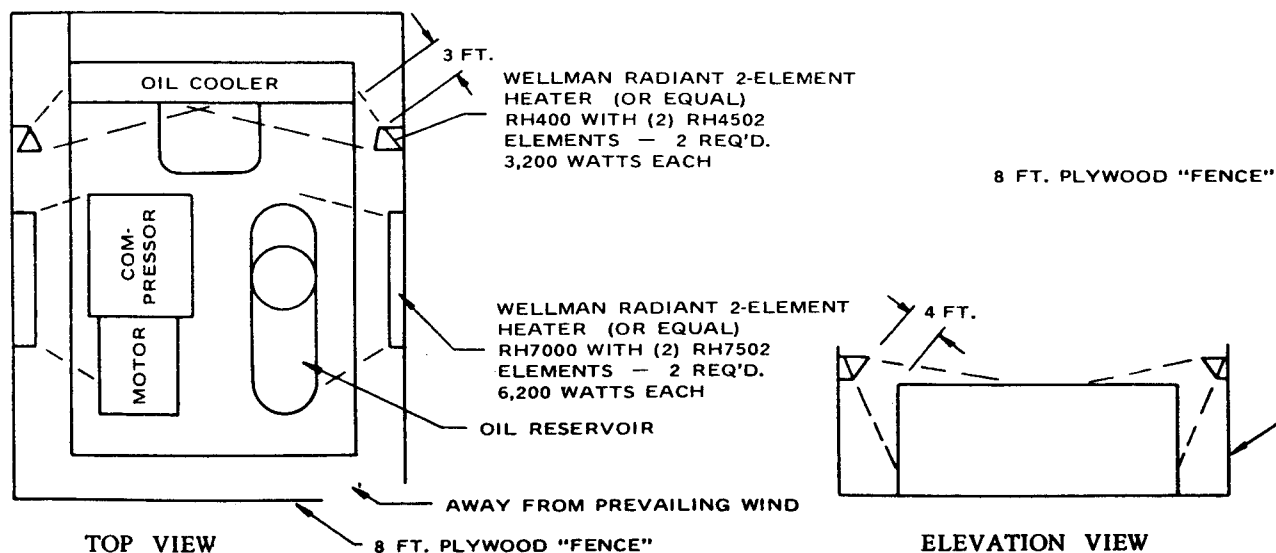

FIGURE 3-2.
3. Some means of providing heat to the oil reservoir and cooler during shutdown should be provided. There are various methods to accomplish this, but since openings are not provided for sump heaters, the use of radiant heaters is recommended. The heaters should be sized to provide at least a  $-10^{\circ}$  F environment for the coolers, motor and sump. Figure 3-2 shows how these might be located in a typical installation and sizes required.